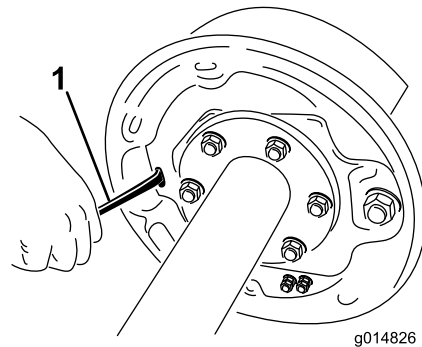

Figure 62
4. With a screwdriver, rotate the star wheel of the adjuster assembly to expand the brake shoes (Figure 62).